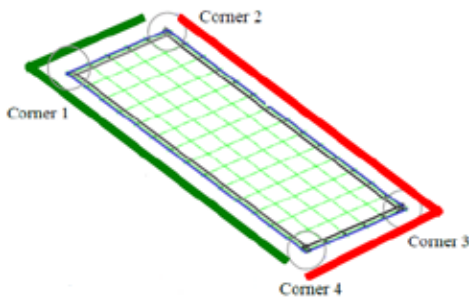
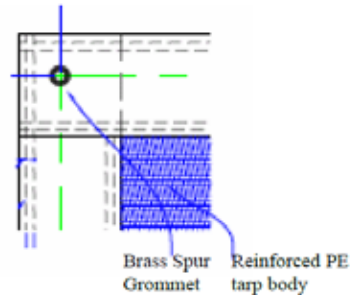
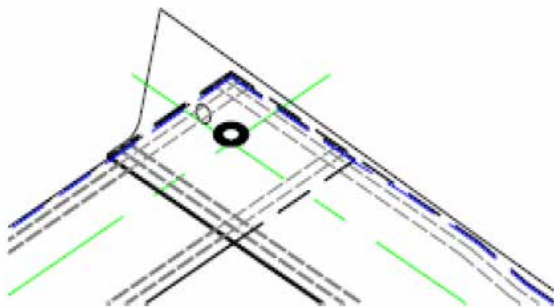

Figure 1. Tarp Layout
Figure 2. Male Top Edge detail of Corner 1
Figure 3. Female Top Edge, Corner 2 detail
- Prepare panels for assembly. Stretch panels lengthwise, with male edge positioned at top to form anchor point. The female flap will always face to the right and bottom of each panel and has an additional flap attached to accommodate the male edge into the female edge (Fig. 1). Figure 2&5 represents male edge corner and Figure 3&4 represents female edge corner.